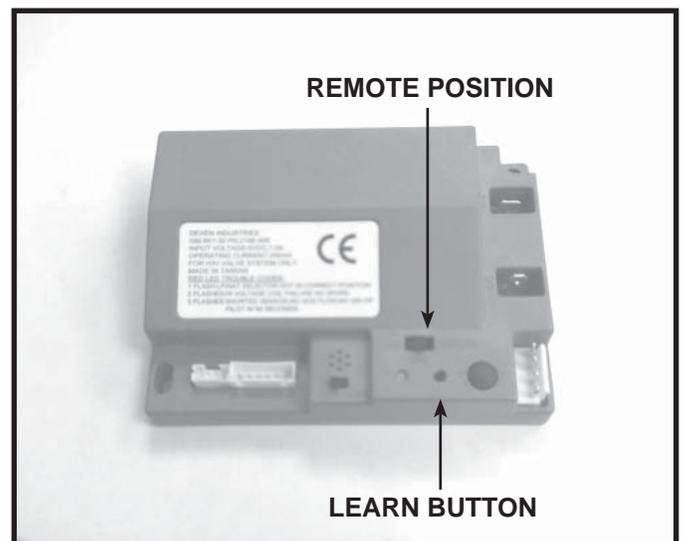

Figure 12.11 Programming RC300AU
- Verify the ON/OFF/REMOTE switch is in the REMOTE position. Green LED light will blink three times and the control module will beep once 5 seconds later when ready. See Figure 12.11.
- Using a small item (such as a paper clip) press and release the LEARN button located near the ON/OFF/REMOTE switch. See Figure 12.11.